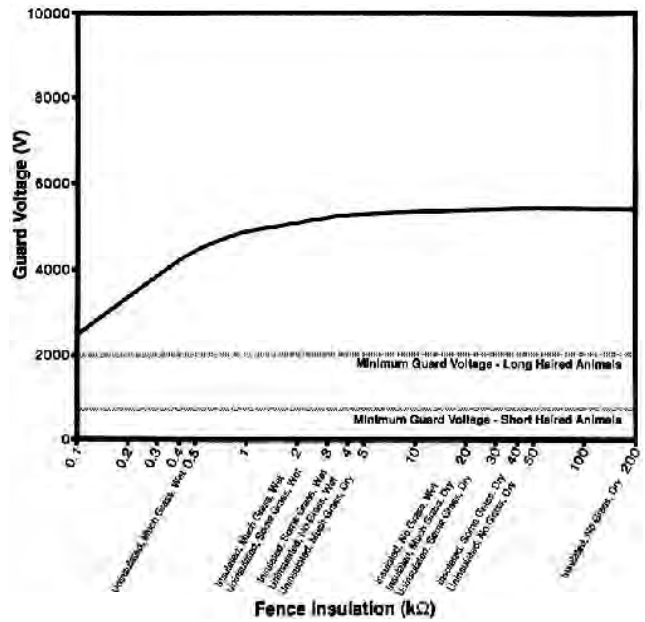

FIGURE 17. Guard Voltage for a 3.3 mi (5.4 km) Single Wire Fence.
**Shock Delivery:** FIGURES 17 and 18 show guard voltage outputs of the BEE 8355C for 3.3 and 10 mi (5.4 and 16 km) lengths of single wire fence over a range of insulation resistances.
On a 3.3 mi (5.4 km) fence (FIGURE 17), guard voltage output varied from 5450 V for a well-insulated, grass-free, dry fence to 2500 V for an uninsulated wet fence with considerable grass touching the charged wire.
As can be seen from FIGURES 17 and 18, plant growth touching a fence did not appreciably affect shock delivery, since the voltage output was above 2000 V for nearly all fence conditions. The BEE 8355C can be expected to deliver shocks over a wide range of fence conditions.